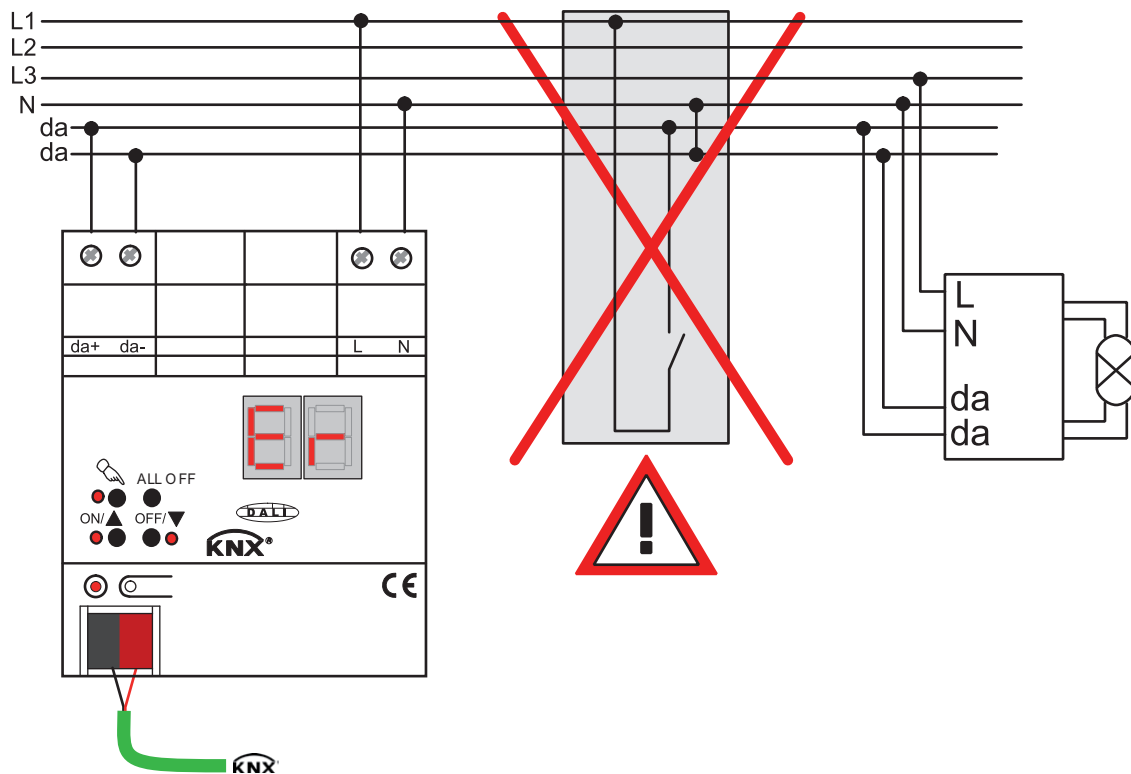

Figure 3: Removing other operating units in the DALI system
- Remove all the appropriate operating units, or ensure that there are no other control sections (figure 3).